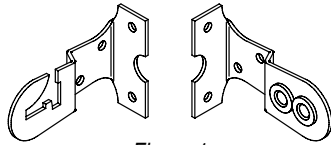

Figure 1
- ⑩ Mount brackets according to type of installation. Use appropriate fasteners (two per bracket) for wall, jamb or ceiling (see Fig. 1). **The installer is responsible for selecting mounting hardware appropriate for site conditions.**